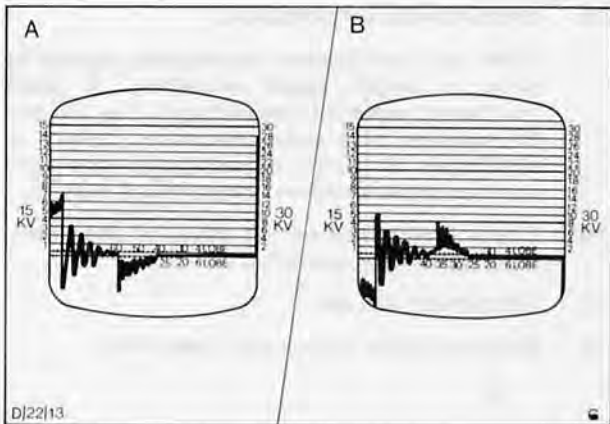

Fig. 24. Coil polarity check
- With engine idling, display secondary circuit on oscilloscope and check polarity, Fig. 24. A is correct, B is incorrect.